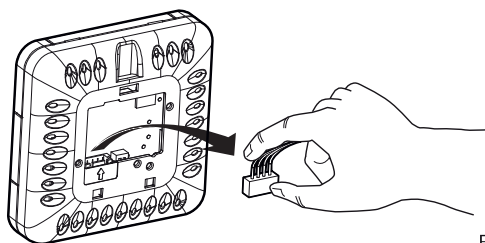

Fig. 2
2. disconnect the 4-pole connector from the front (fig.2);